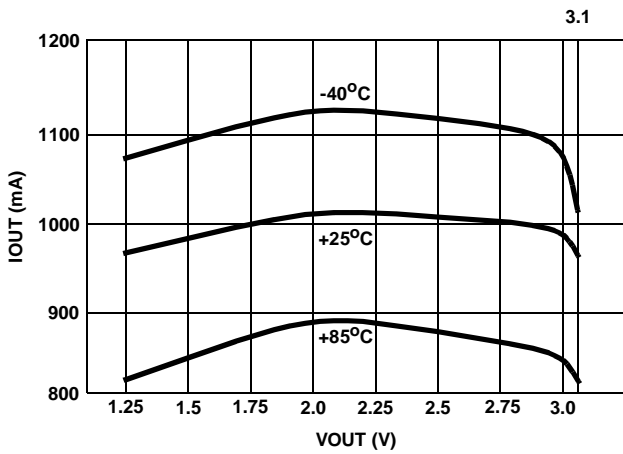
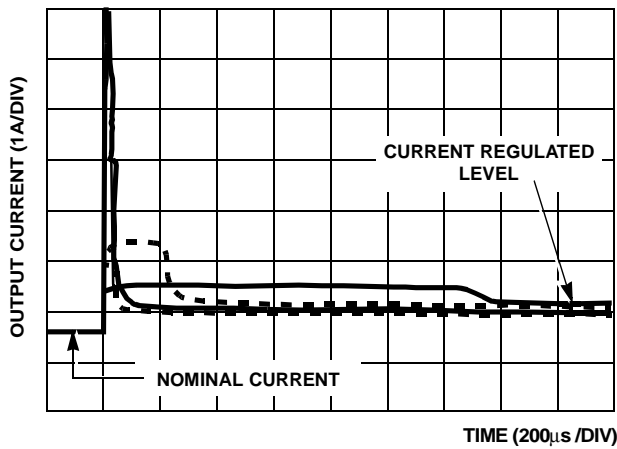
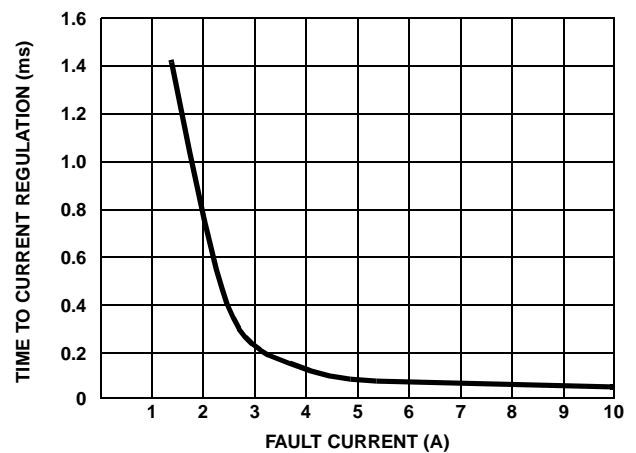

FIGURE 4. CURRENT REGULATION vs V_{out} ($V_{IN} = 3.3V$)
FIGURE 6. OC TO CR SETTLING TIME WAVEFORMS
FIGURE 7. CR SETTLING TIME vs FAULT CURRENT
The ISL6119 has integrated current sensing on the power MOSFET that allows for rapid control of OC events. Once an OC is detected the ISL6119 goes into its current regulation (CR) control mode. The ISL6119 CR level is set to a nominal 1A. This current regulation is $\pm 25\%$ over the full operating temperature and voltage bias range. See Figures 4 and 5 for illustrative curves. The speed of this control is inversely related to the magnitude of the OC fault. Thus a hard over current is more quickly controlled than a marginal OC condition. See Figure 6 for waveforms illustrating this and Figure 7 for an accompanying graph.